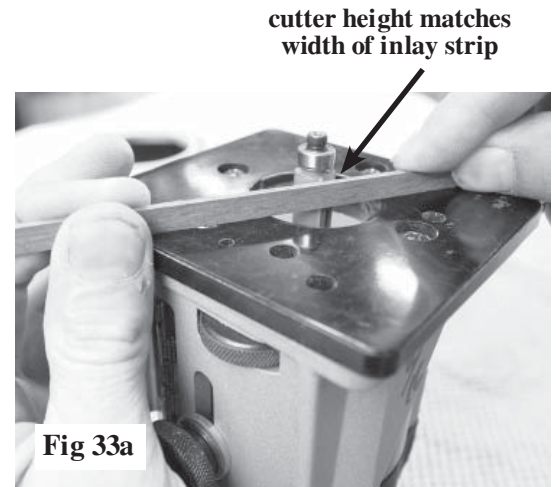

Fig 33a
33. OPTIONAL DECORATING: If you have a router, you can install binding around edges of the soundboard and/or back. This is not a necessary step, but it adds a lot to the appearance of the finished instrument. Use our Inlay Router Bit with the smaller bearing for this operation. Set the depth of cut to match the width of the binding strip, as shown in fig 33a.